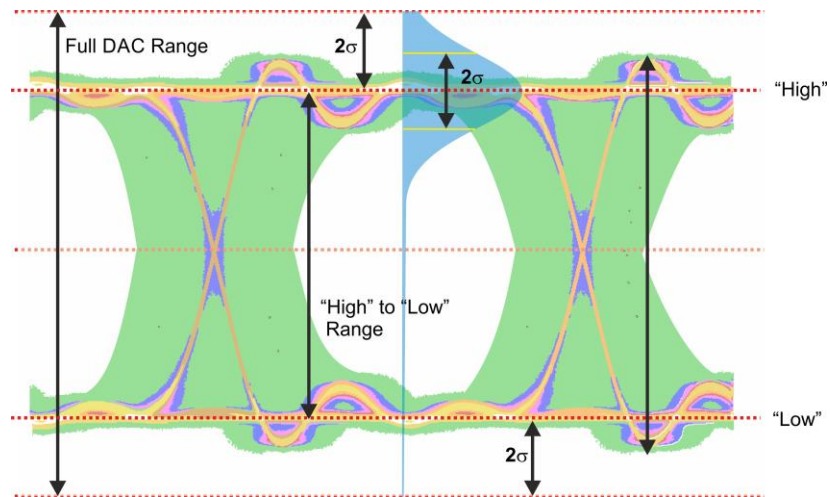

Figure 22: Clipping and noise amplitude
- Ampl(rms): Root-mean-square amplitude for noise is set as a percentage of the reference “low” to “high” excursion. Reference “low” and “high” amplitudes correspond to the final, steady level after a long run of consecutive “low” or “high” states. These levels are not influenced by any low-pass or de-emphasis filters applied to the waveform (see Figure 22), so it is used to establish an absolute reference for relative amplitudes.
- Crest Factor: This parameter is expressed in dB relative to the rms amplitude of the noise. If the combined waveform (signal + noise) goes beyond the valid lower and upper limits, samples are clipped to the corresponding limit. The upper limit can be calculated by adding the Nominal “high” value and an additional headroom resulting from the Ampl(rms) parameter corrected by the Crest Factor parameter. The lower limit can be symmetrically calculated in a similar way from the Nominal “low” level (see Figure 22).